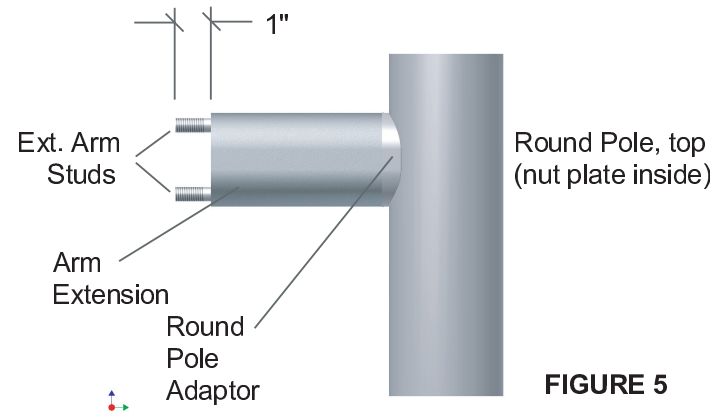

FIGURE 5
D. USING EXTENSION ARM ON ROUND POLE - FIGURE 5
- 4. With nut plate inside pole, thread extension arm studs thru top and bottom extension arm holes, then thru top and bottom pole adaptor holes, then thru top and bottom pole holes, then into nut plate. See Figure 5.